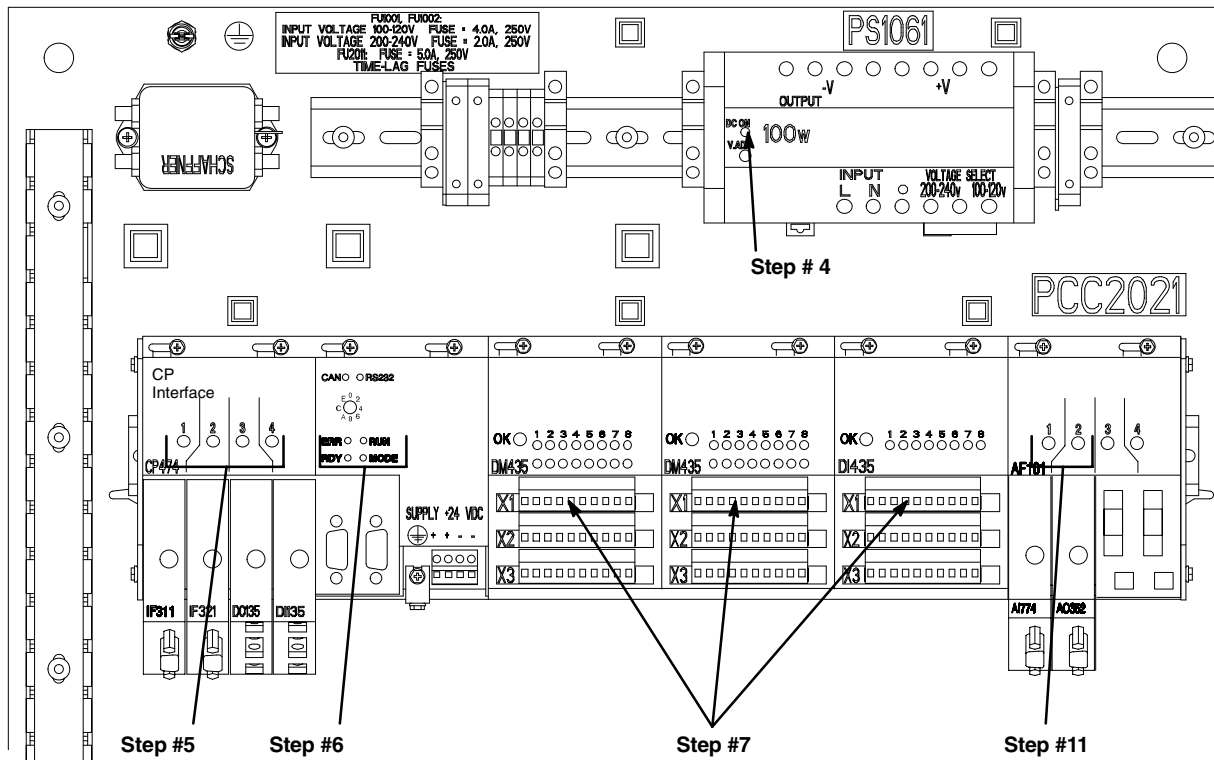

Fig. 3.24
4. Check that the DC ON LED on the power supply is lit. See Fig. 3.24.
5. Check that LEDs 1, 2, 3, and 4 on the controller interface module are lit. See Fig. 3.24.
6. Check that the RUN LEDs on the controller are lit, the ERR (error) LED is not lit, and the RS232 LED is blinking. See Fig. 3.24.
7. Check that the OK LEDs on all the I/O modules are lit. See Fig. 3.24.
11. Check that the LEDs 1 and 2 on the analog interface module are lit. See Fig. 3.24.